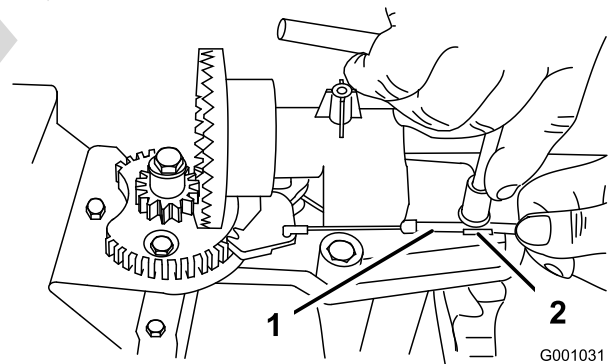
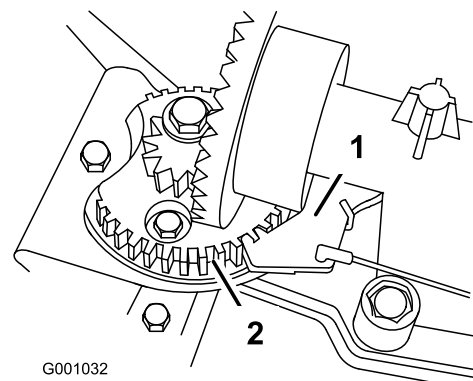

Figure 50
Figure 51
- Loosen the bolt on the cable clamp (Figure 50).
- Grasp the cable conduit and move it toward the front of the machine until the discharge chute latch fully engages the gear teeth (Figure 50 and Figure 51).
Note: The latch is spring loaded and will naturally move into the teeth of the gear (Figure 51).